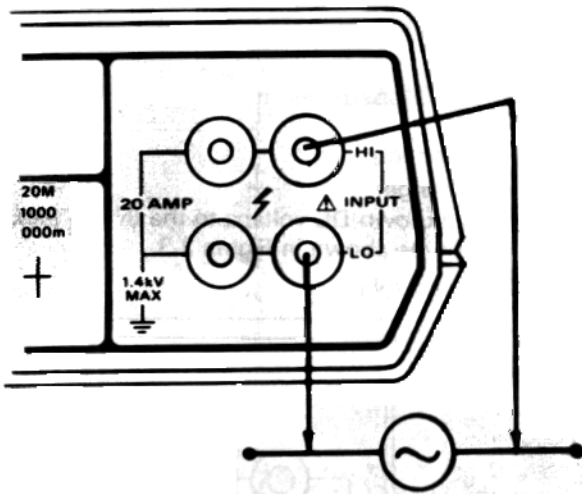

Figure 2-4. AC Voltage Measurement
3. Connect the unknown AC voltage to the INPUT jacks of the Model 179A as shown in Figure 2-4.